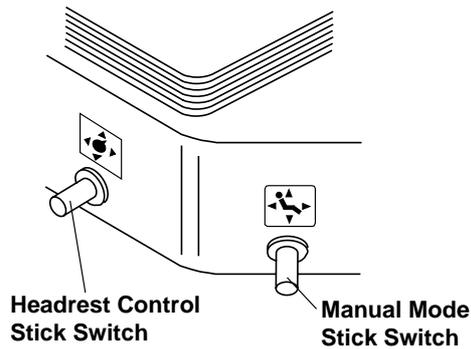

Fig.3-11 Stick Switches
(1) Manual Mode Stick Switch (**Fig.3-11**)
(2) Headrest Control Stick Switch (**Fig.3-11**)